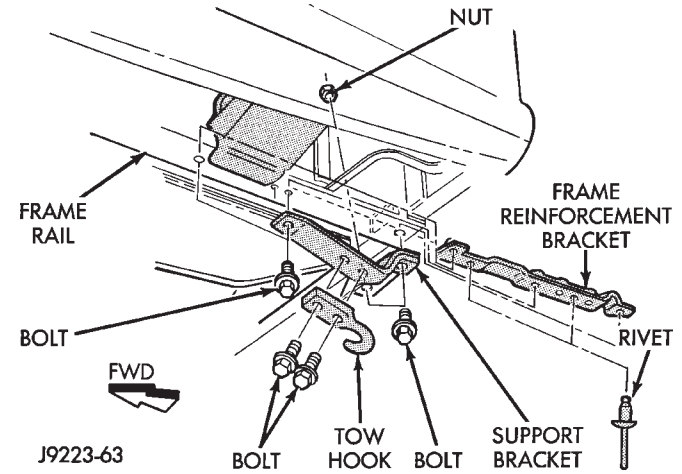

Fig. 16 Rear Tow Hook—XJ Vehicles
(1) Remove the bolts that attach tow hook bracket to the frame rail and reinforcement bracket (Fig. 16).